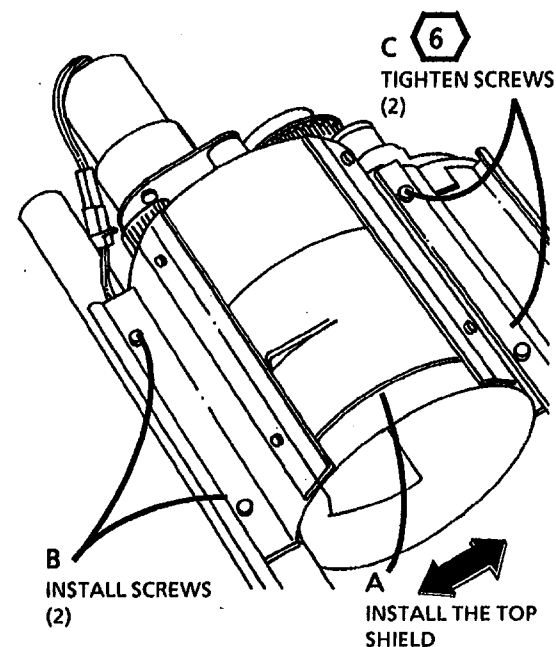

Figure 8. Reinstall the Top Shield
3. (Figure 8): Reinstall the Top Shield.